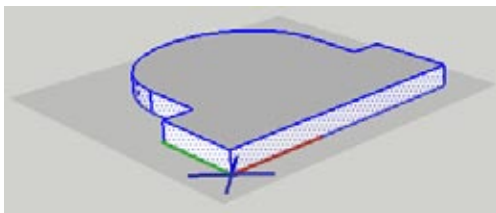

Figure 7-57
5. Make a component from these selected faces; set to align to any face and to cut openings. The origin for this component should be at the bottom of the faces, because this is where the component will meet the back face of the wall (Figure 7-57).